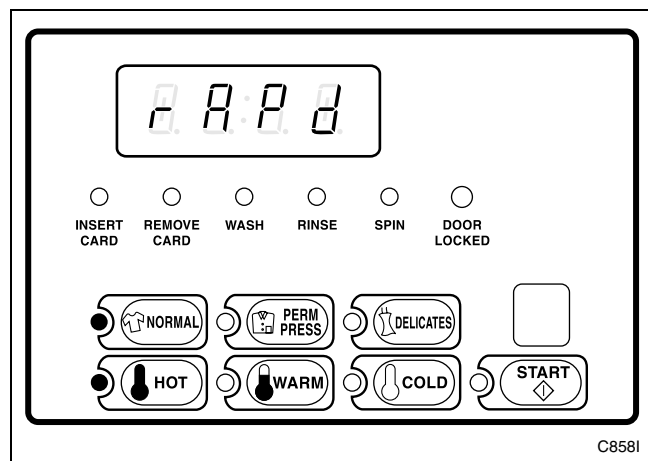

Figure 4
4. The VFD display will show “rAPd”. Refer to *Figure 4*.